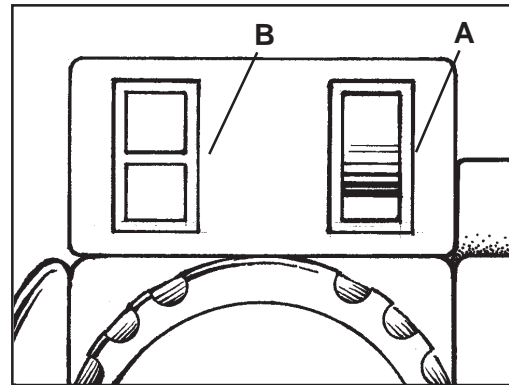

Figure 4
3. Tilt the machine back so that the sanding pad does not contact the floor. Select cutting speed. Use high speed for fast stock removal. Use low speed for finish cuts and custom work. See figure 4 (A).
4. Depress and release the start/stop push button to start the machine. See figure 4 (B).
6. When replacing abrasive; emptying the contents of the dust bag; or the sanding operation is completed, return the machine to the reclined position and flip the control switch to the off (O) position. Disconnect the machine from the power supply.